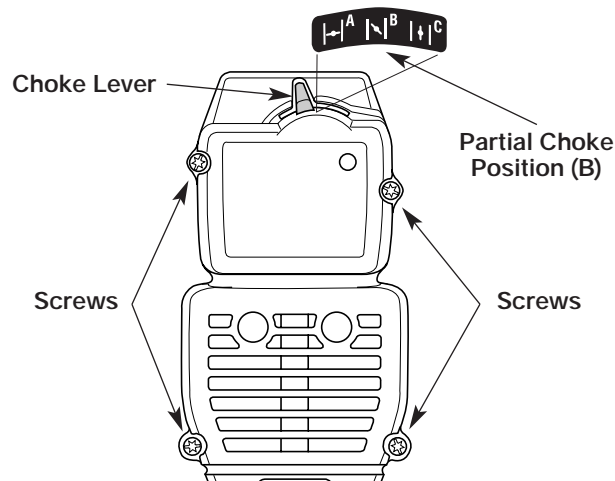

Figure 21
1. Place the choke lever in the **PARTIAL** choke position (B).
**NOTE:** The choke lever must be in the **PARTIAL** choke position (B) to remove the air filter/ muffler cover. See Figure 21.
2. Remove the four (4) screws securing the air filter/ muffler cover. See Figure 21. Use a flat blade or T20 Torx bit screwdriver.
**NOTE:** The choke lever must be in the **PARTIAL** choke position (B) to install the air filter/muffer cover. See Figure 21.
2. Insert the four (4) screws into the holes in the air filter/muffer cover and tighten. See Figure 21. **Do not over tighten.**